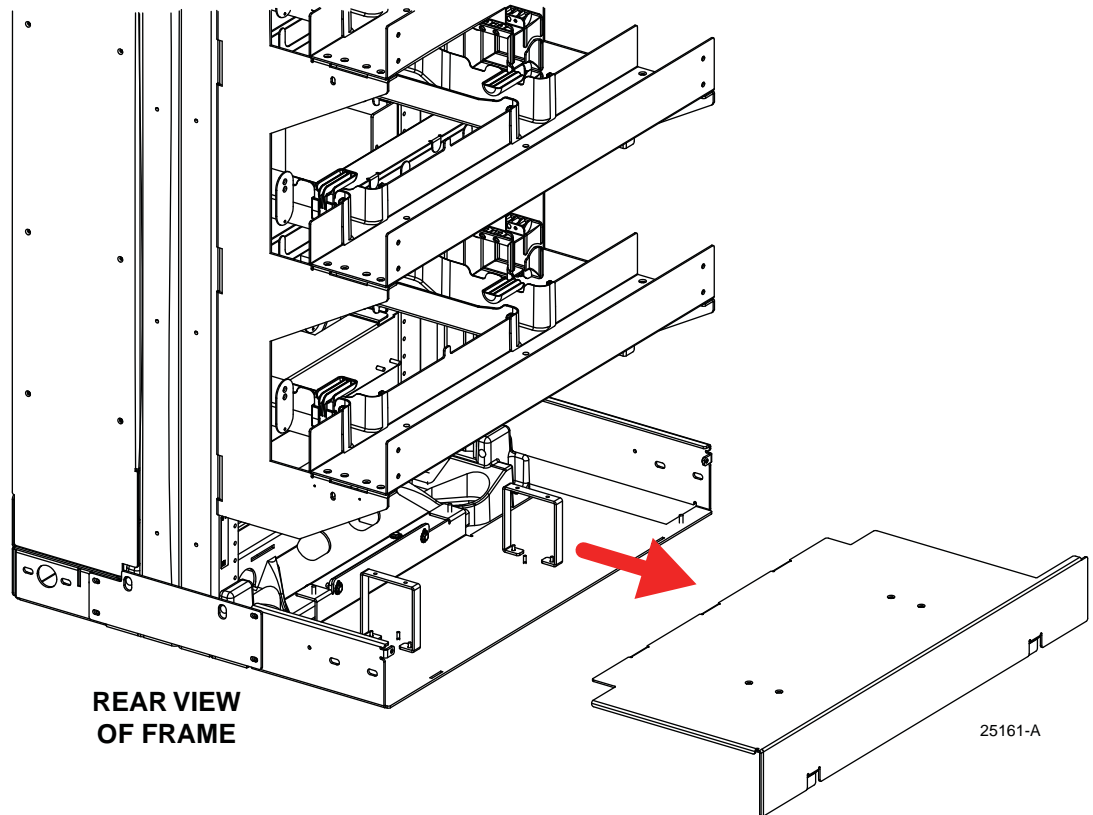

Figure 38. Removing Rear Cover on a Non-Splice Frame
4. If the frame does not have a splice chassis, remove the cover shown in Figure 38.